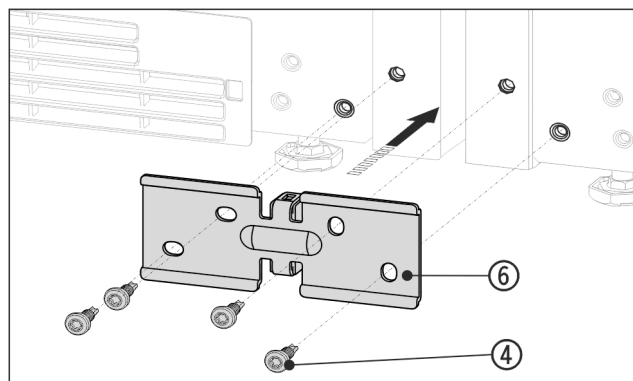

Fig. 14 Example illustration
- Slide the bracket Fig. 14 (6) on with the spacer between the appliances and screw in loosely with the 4 screws Fig. 14 (4).